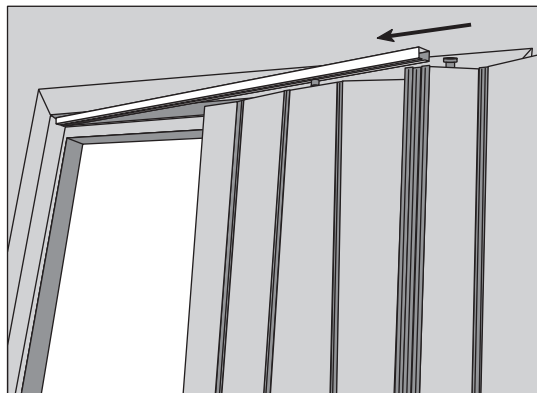

fig. 10
3. Carefully slide the Folding Door ③ into the Top Track ①.
**See fig. 10.**